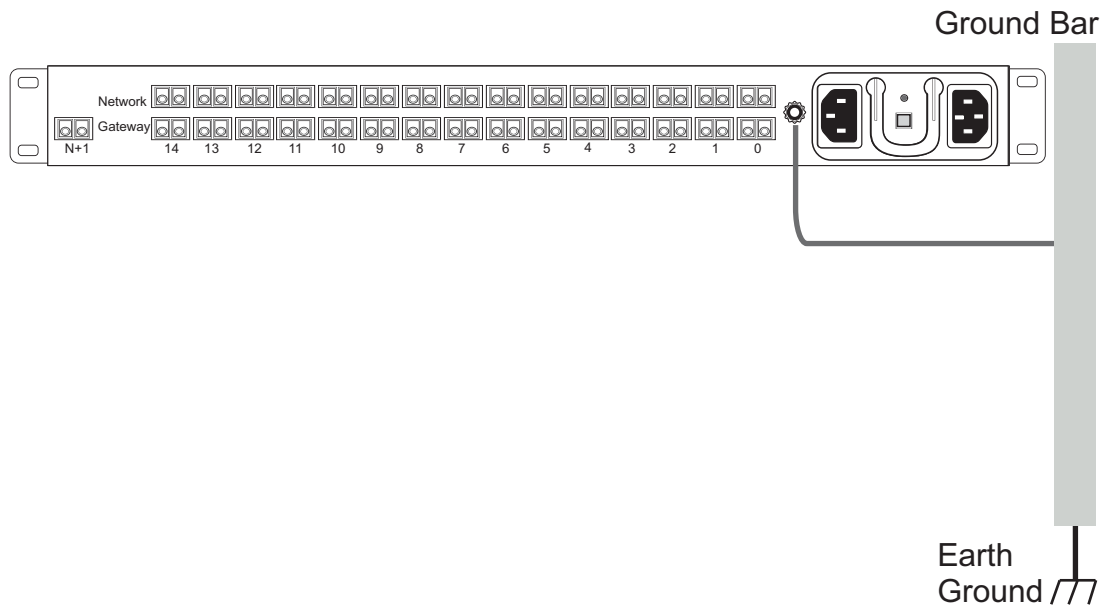

Figure 6.2 Chassis Ground Connection
1. Connect one end of a ground wire to the ground lug of the 7800 N+1 Patch Panel. See figure 6.2 on page 49.